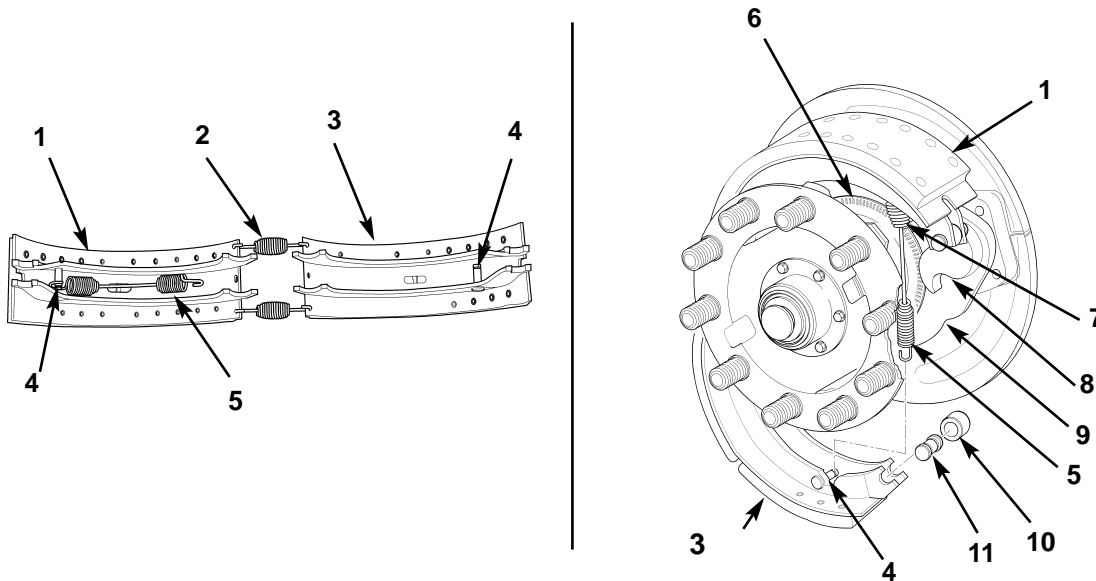

Figure 30. Positioning Wheel Sensor and Installing Brake Shoes.
30. Push wheel sensor (figure 30, item 7) in until it contacts tone ring (figure 30, item 6).
31. Position upper and lower brake shoes (figure 30, items 1 and 3) on brake spider (figure 30, item 9) with two shoe retaining springs (figure 30, item 2) connected.
32. Secure upper and lower brake shoes (figure 30, items 1 and 3) at camshaft (figure 30, item 8) by connecting hook ends of shoe release spring (figure 30, item 5) to pin (figure 30, item 4) on upper and lower brake shoes (figure 30, items 1 and 3).
33. Using suitable pry bar, lift upper brake shoe (figure 30, item 1) at camshaft (figure 30, item 8), and position roller (figure 30, item 10) and shoulder pin (figure 30, item 11) between upper brake shoe (figure 30, item 1) and camshaft (figure 30, item 8).
34. Repeat step 33 to install roller (figure 30, item 10) and shoulder pin (figure 30, item 11) on lower brake shoe (figure 30, item 3).